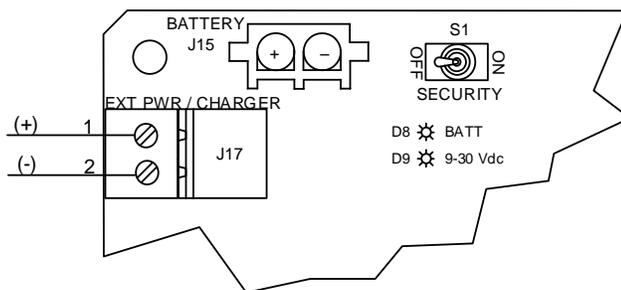

Figure 23: μ FLOG⁵ power connections and power option selector
- d. Insert each solar panel cable wire, as identified by the cable label (+ or -), into the corresponding point (1 or 2), as shown in Figure 23, and gently tighten the terminal connector screws.
- e. Insert each power supply cable wire (+ or -) into the corresponding point (1 or 2), as shown in Figure 23, page 43, and gently tighten the terminal connector screws.